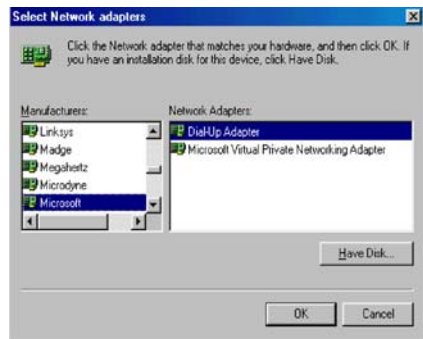

Figure 13 Select Network Adapter
7. The **Select Network adapter** window opens as shown in Figure 13.
9. Under **Network Adapters** select (highlight) **Dial-up Adapter** (Figure 13).